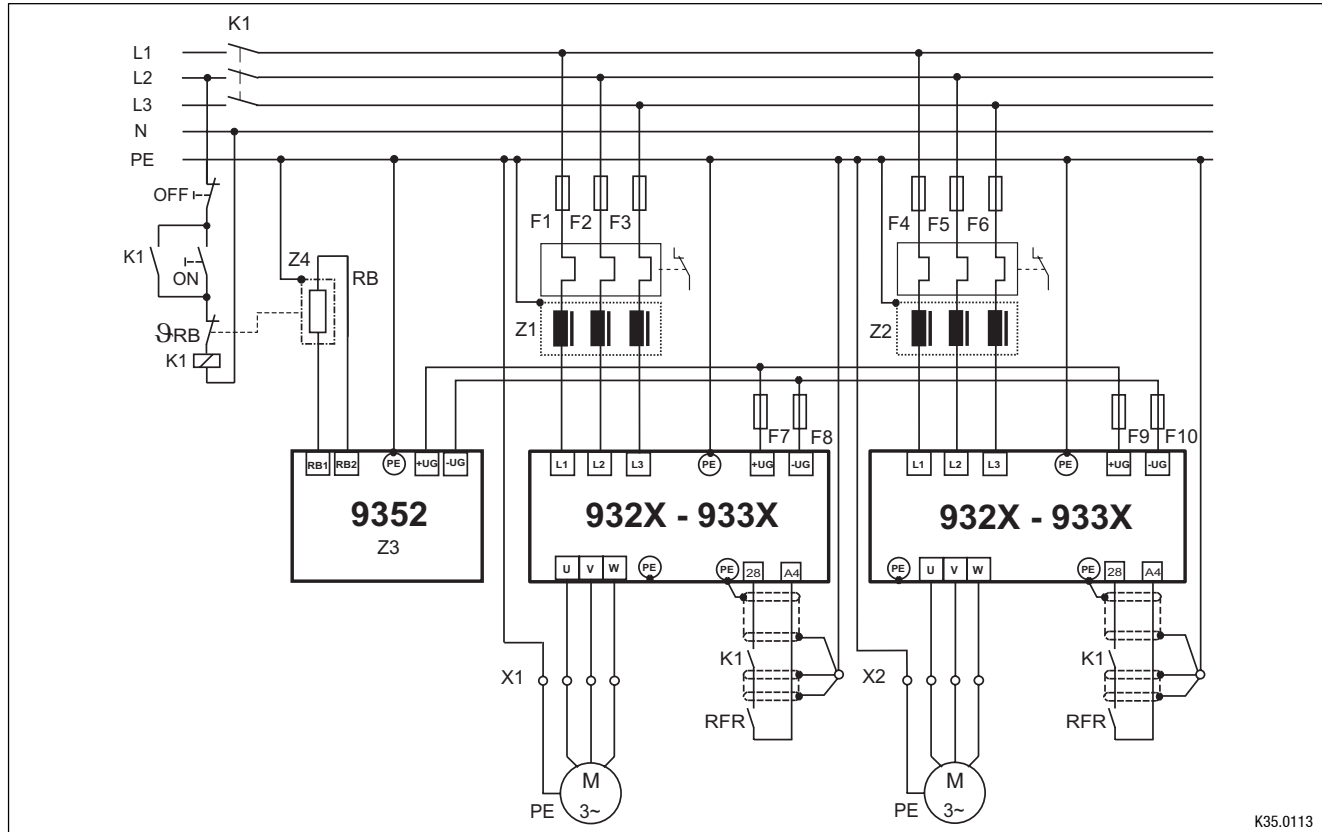

Fig. 4-9 Decentralized supply for DC-bus connection of several drives
- Fig. 4-9, “Decentralized supply for DC-bus connection of several drives”. (4-18)